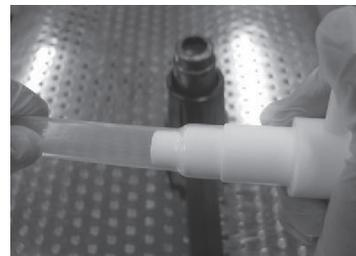

Figure 3
4. Remove the PFA tubing from the heat source. Immediately push the flaring mandrel (part number EPF24MDL) into the tubing until the end of the tubing reaches the tube stop (Figure 3).